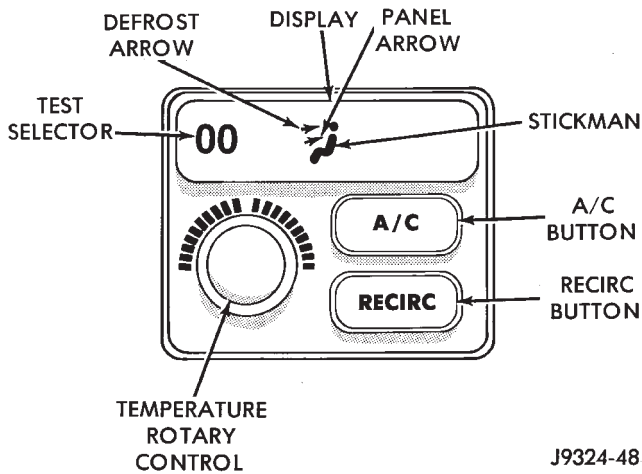

Fig. 9 Test Selector Values Between 200 and 255
(4) If the panel (middle) and defrost (top) arrows are showing, the test selector value will be a range of numbers between 200 and 255 (Fig. 9).